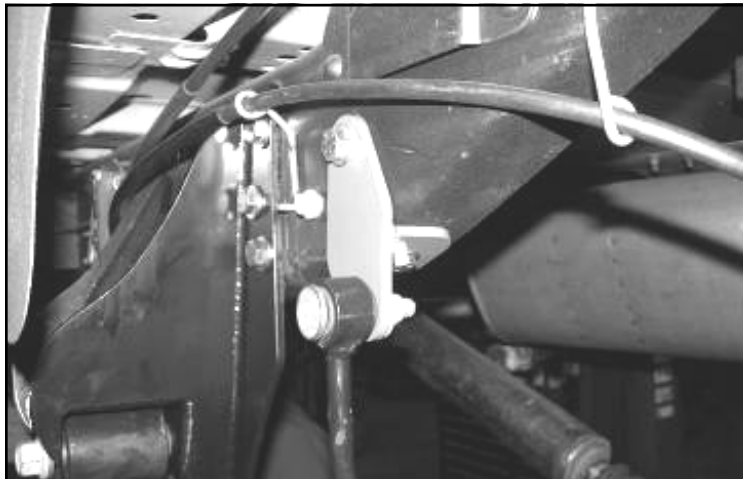

FIGURE 7 - STEP 7
7. Locate the FT30240BK (driver) and FT30241BK (pass) Rear Sway Bar Drop Brackets. Remove the factory sway bar endlinks from the frame and save the hardware. Place the drop bracket onto the frame so that the hole in the new bracket is directly above the factory hole (the longer end of the bracket goes upward and attaches to the frame). Use a paint pen or center punch to mark the center of the hole. Using a drill, drill the new hole into the frame starting with a smaller size bit and working up to the 1/2" size. Using a drill with a 3/8" bit, drill the bottom hole through the new bracket into the frame. Use the supplied 3/8" hardware and install the bolts through the bracket into the frame, torque to 30 ft. lbs. Install the end link into the bottom of the new drop bracket with the factory hardware and torque to 50 ft. lbs. **SEE FIGURE 7**